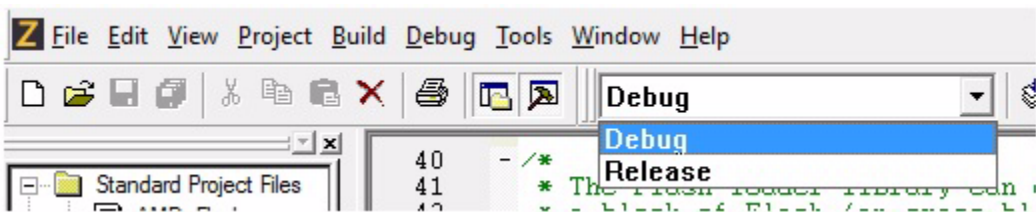

Figure 1. Select Build Configuration
3. From the **Build** configuration pull-down, select either the **Debug** or **Release** build, as shown in Figure 1.